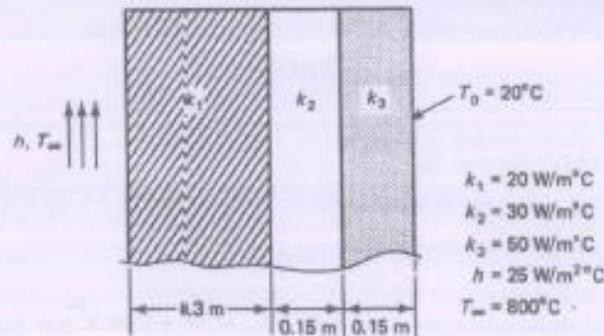

Figure.3
7. A composite wall consists of three materials as shown in Figure.3. The outer temperature is $T_o=20^\circ\text{C}$, convection heat transfer takes place on the inner surface of the wall with $T_\infty=800^\circ\text{C}$ and $h=25\text{W/m}^2\text{C}$. Determine the temperature distribution in the wall.